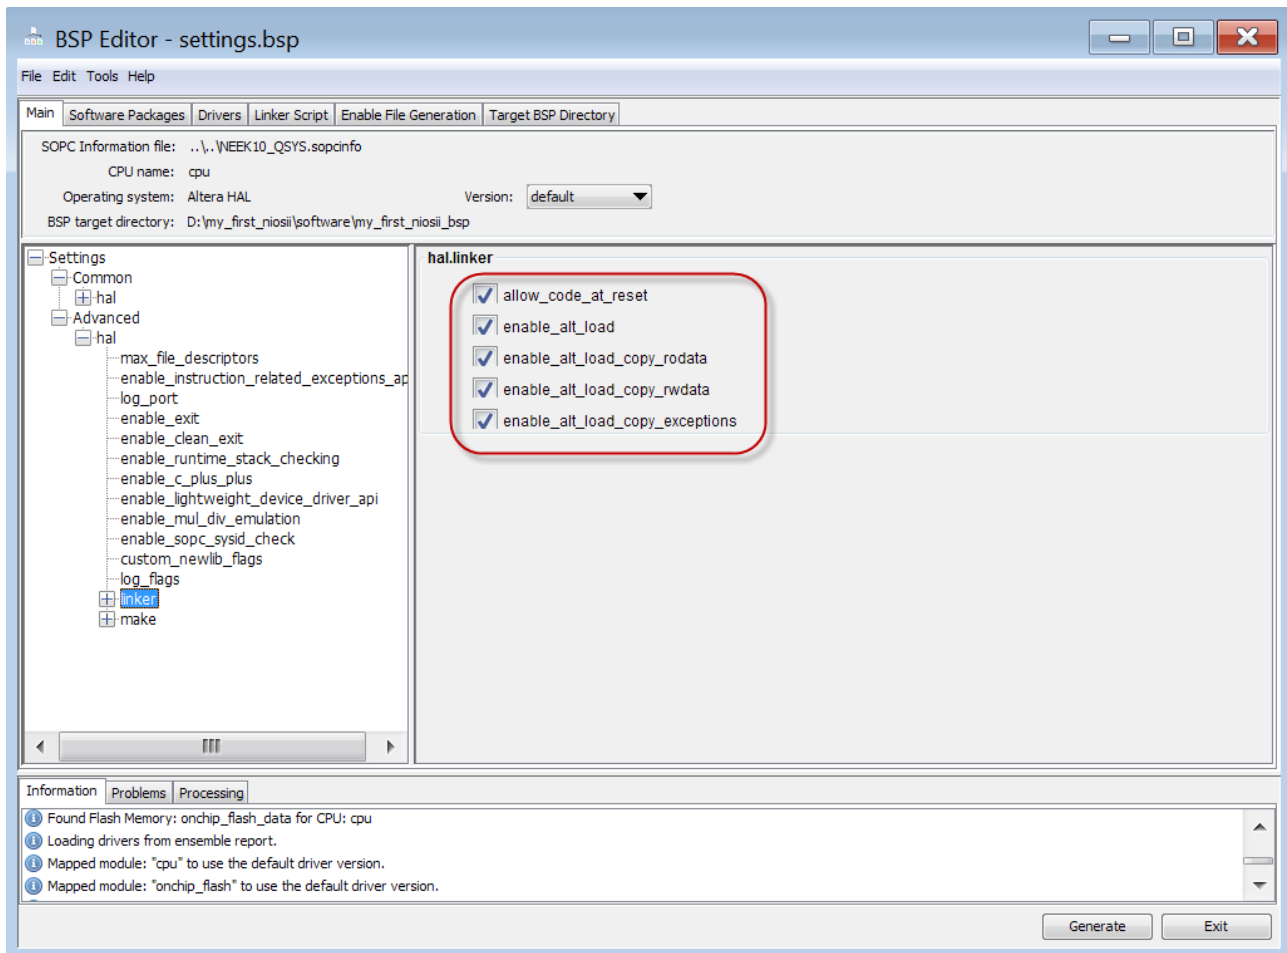

Figure 3-9 Set the options of hal.linker
3. Go to **Settings-> Advanced ->linker** to expand the list and set the options of **hal.linker** according to **Figure 3-9**.